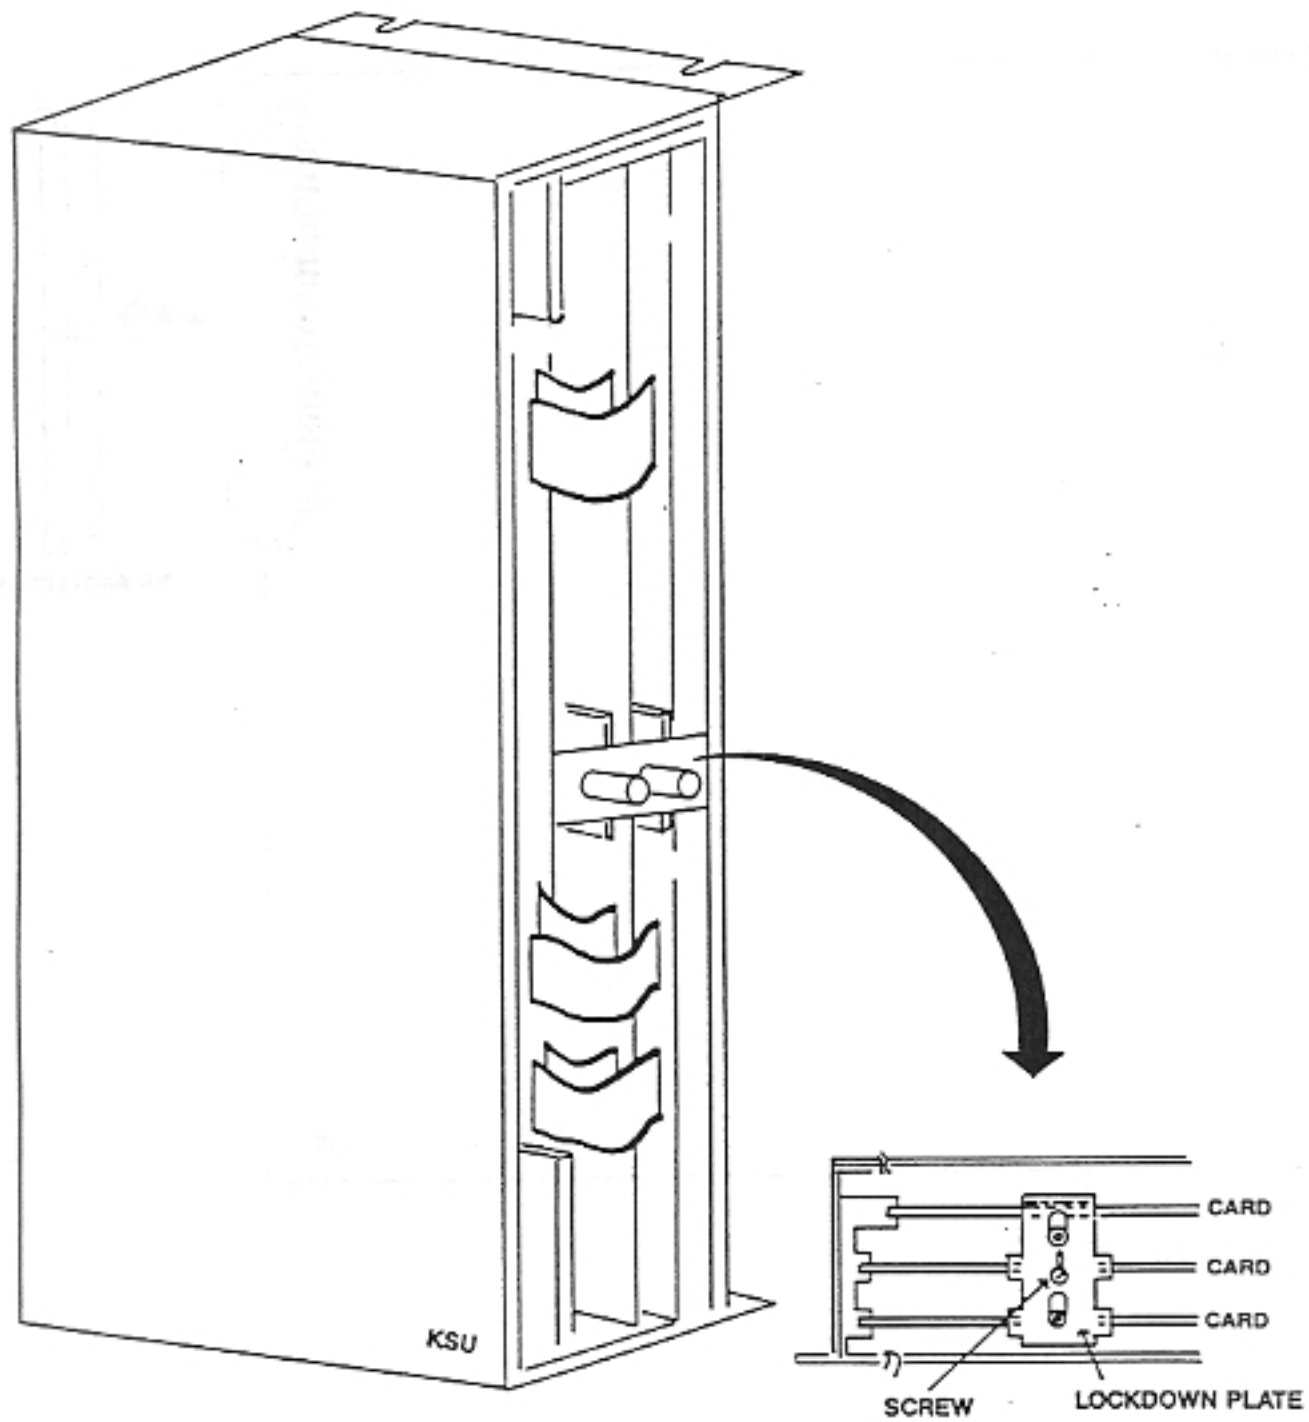

Figure 5-1 KSU Internal Construction
3. Loosen screw that secures lockdown plate (refer to Figure 5-1). Slide lockdown plate to right, so that the card slots are clear.